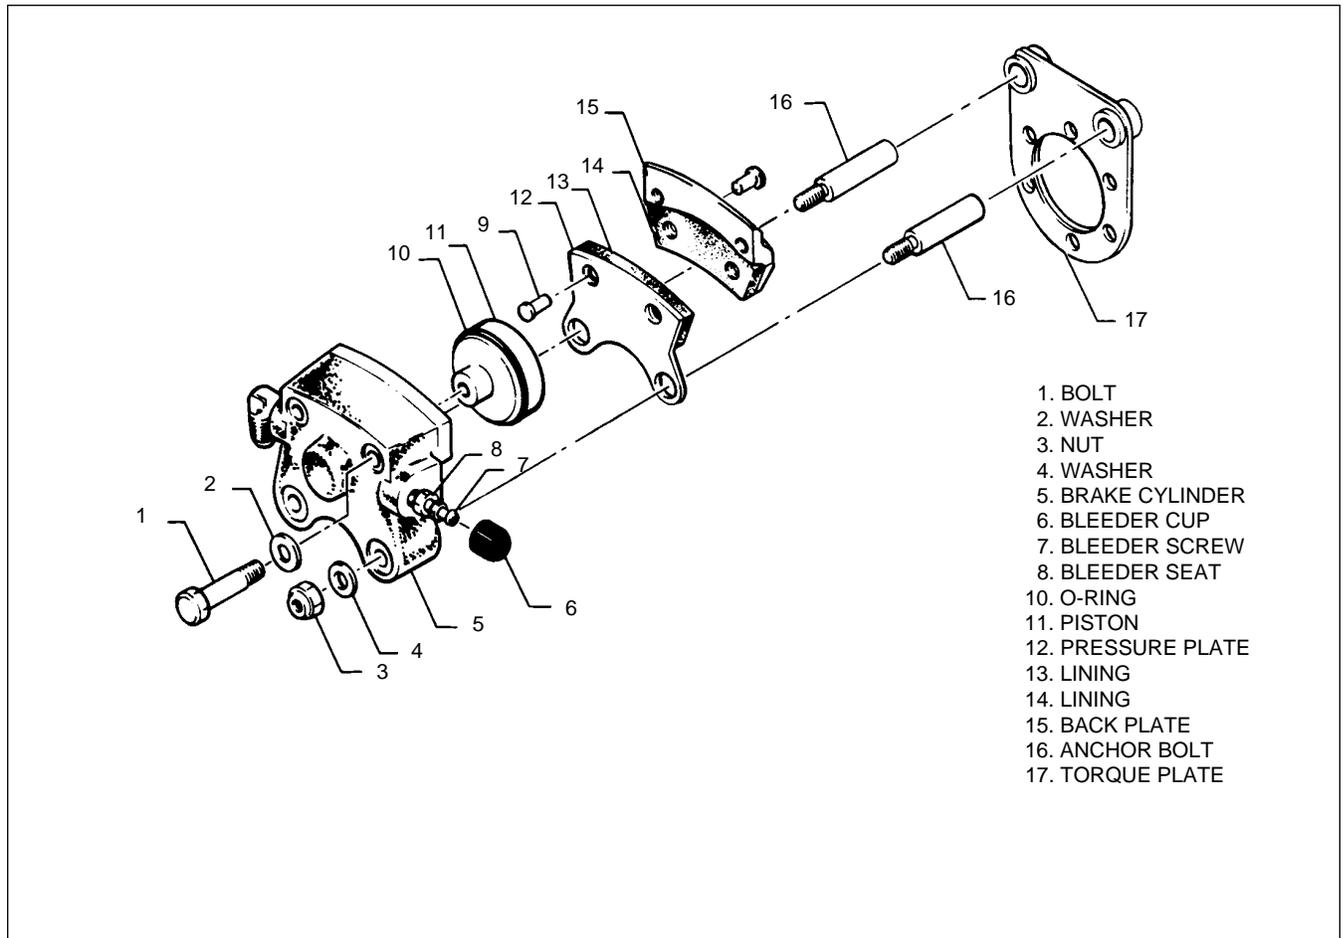

Figure 7-9 Wheel Brake Assembly
**7-31. REMOVAL AND DISASSEMBLY OF WHEEL BRAKE ASSEMBLY.** (Refer to Figure 7-9.)
**7-33. ASSEMBLY AND INSTALLATION OF WHEEL BRAKE ASSEMBLY. (Refer to Figure 7-9.)**